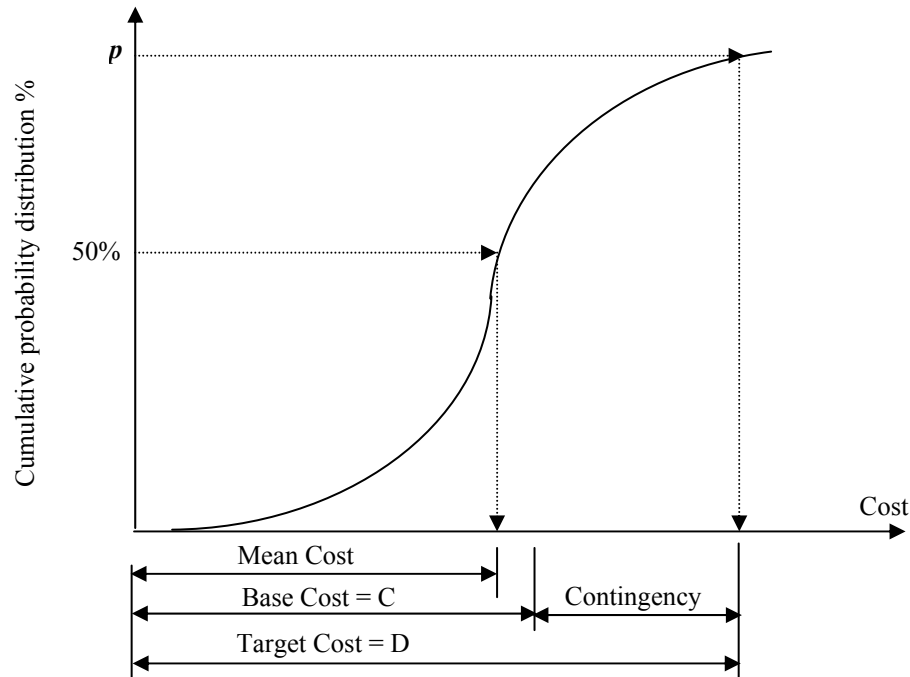

Figure 8.18: Cost contingency
- Cost contingency can be simply calculated after specifying the probability distribution of the performance criteria (Cumulative Probability Distribution as shown in Figure 8.18) as follows: